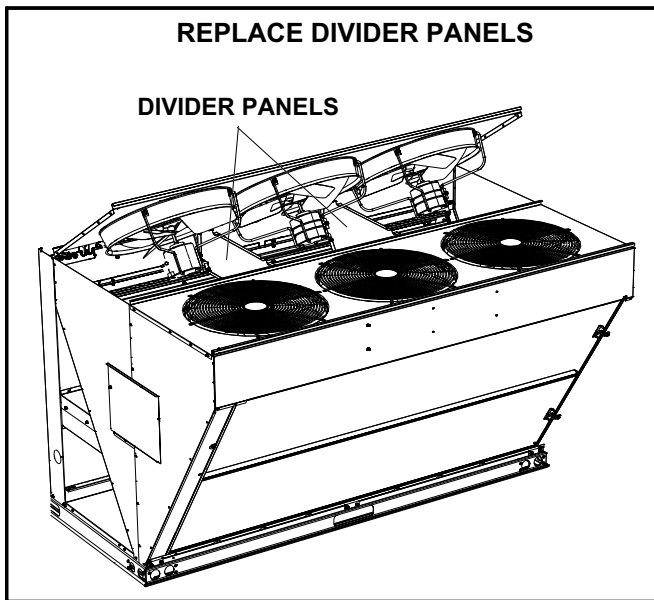

FIGURE 3
- 1- Remove and retain the screws securing the unit top panel on the condenser end; prop open. See figure 3.